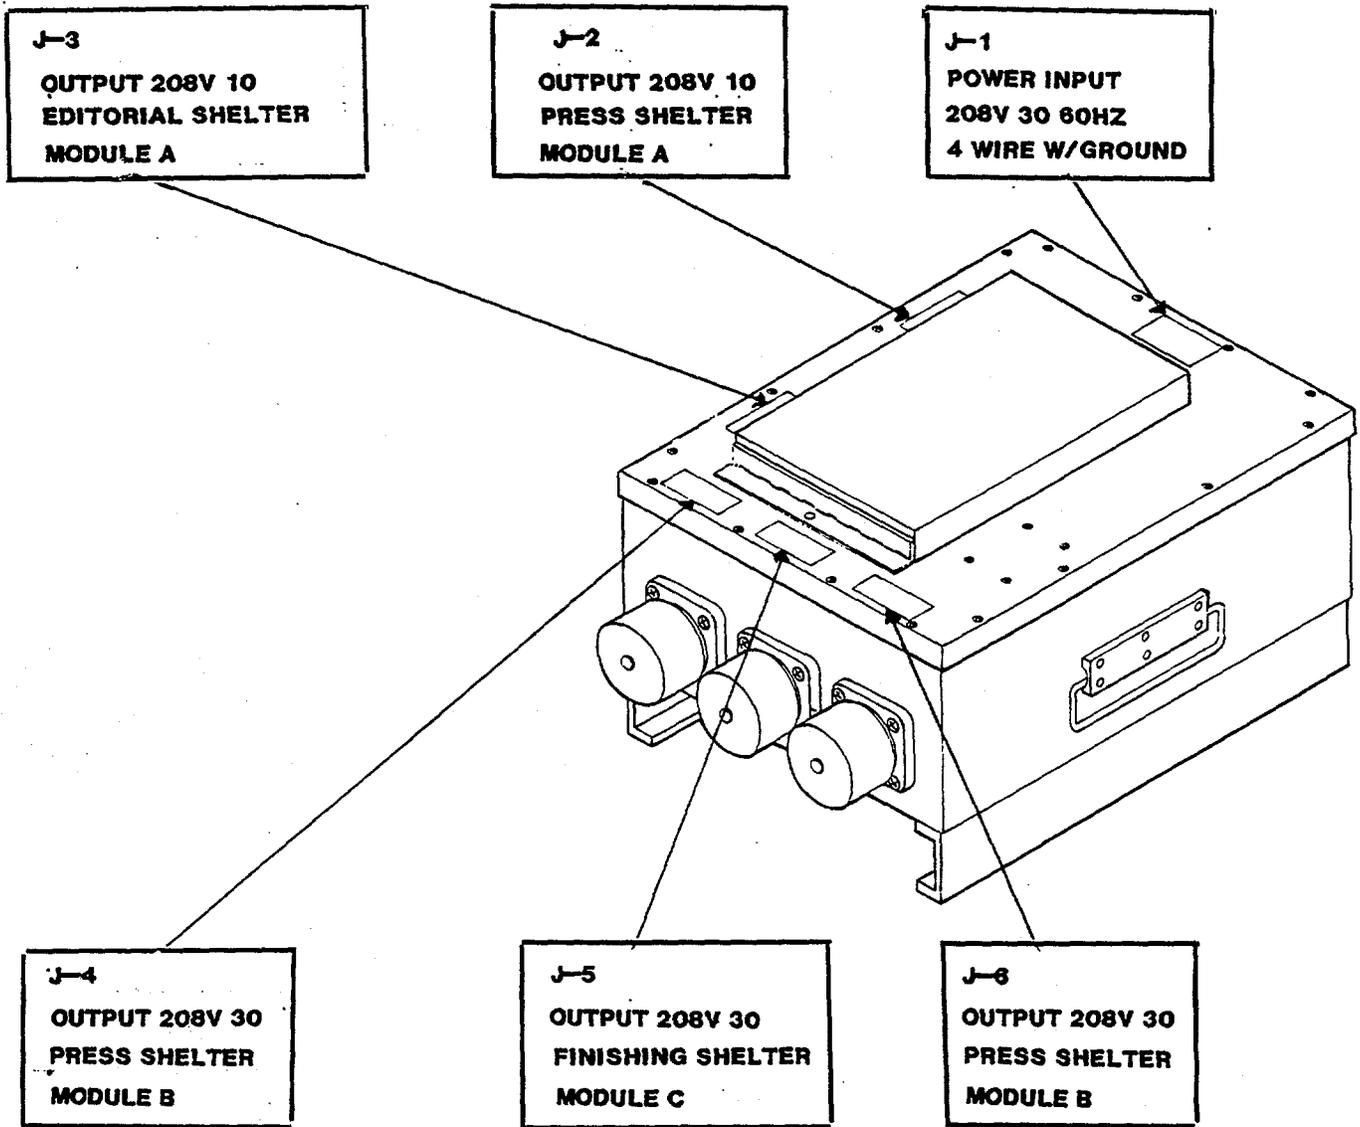

Figure 2-18. Power Distribution Box Decal Locations (Outside)
- b. Power Distribution Box. Figures 2-18 and 2-19 below identify decals and data plates on the Power Distribution Box.